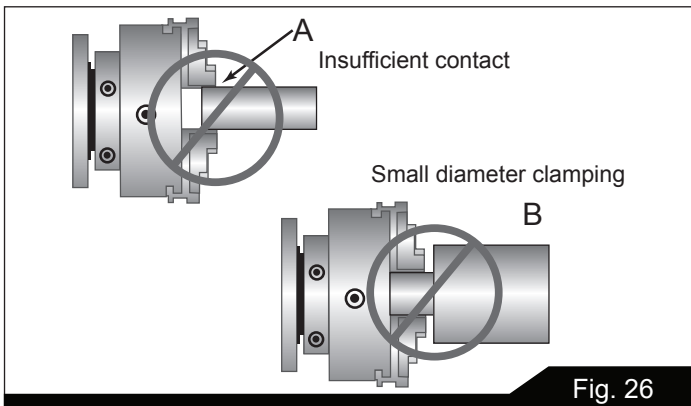

Fig. 26
- Avoid short clamping contact (Figure 26, A) or clamping on a minor part diameter (Figure 26, B). Face-locate the workpiece for added support.